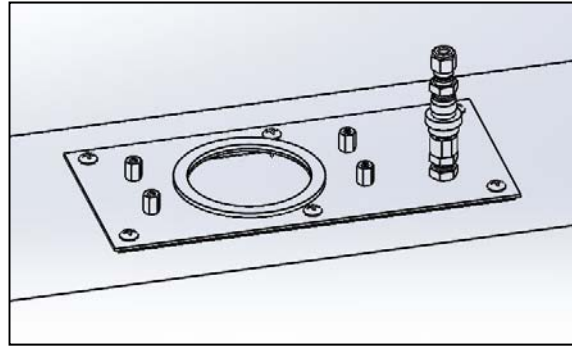

Figure 16
- (6) Once the base assembly is properly aligned, use the holes to mark locations for 1/4" self-tapping screw installation. Attach the duct mount assembly to the duct via 1/4" self-tapping screws (not provided) as shown in Figure 16.